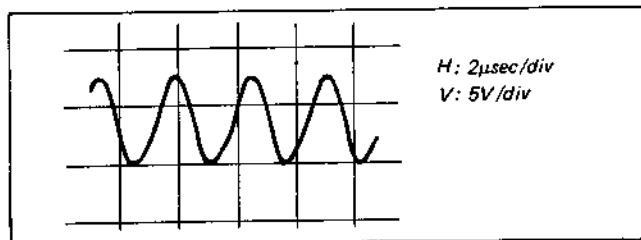

Fig. 4-2-1. Adjustment of clock oscillating frequency
- (2) Adjust T501 for 400 kHz \pm 0.5 kHz. (See Fig. 4-2-1.)
- (2) Adjust T1 for 400 kHz \pm 0.5 kHz. (See Fig. 4-2-1.)
- (2) Adjust T2 for 400 kHz \pm 0.5 kHz. (See Fig. 4-2-1.)